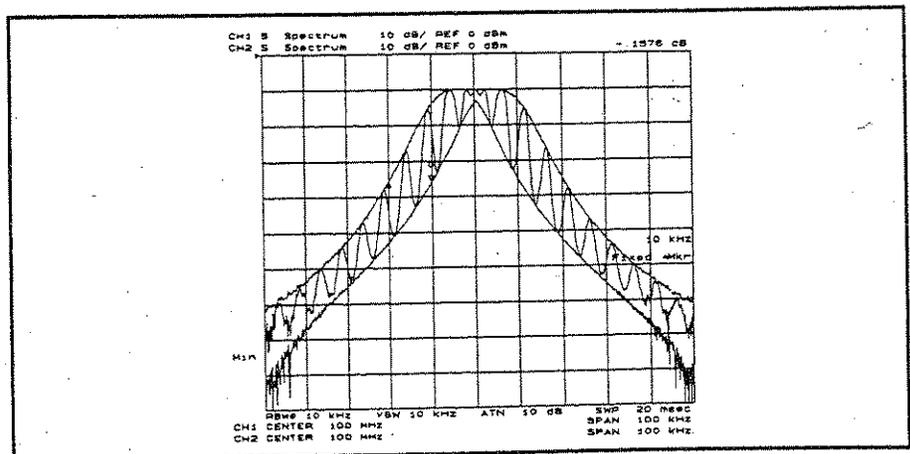

Figure 3-18. Superimposing Spectrum and Envelopes
12. Press **MORE SPLIT DISP** ON off to on OFF. The analyzer superimposes the spectrum on the envelopes as shown in Figure 3-18.